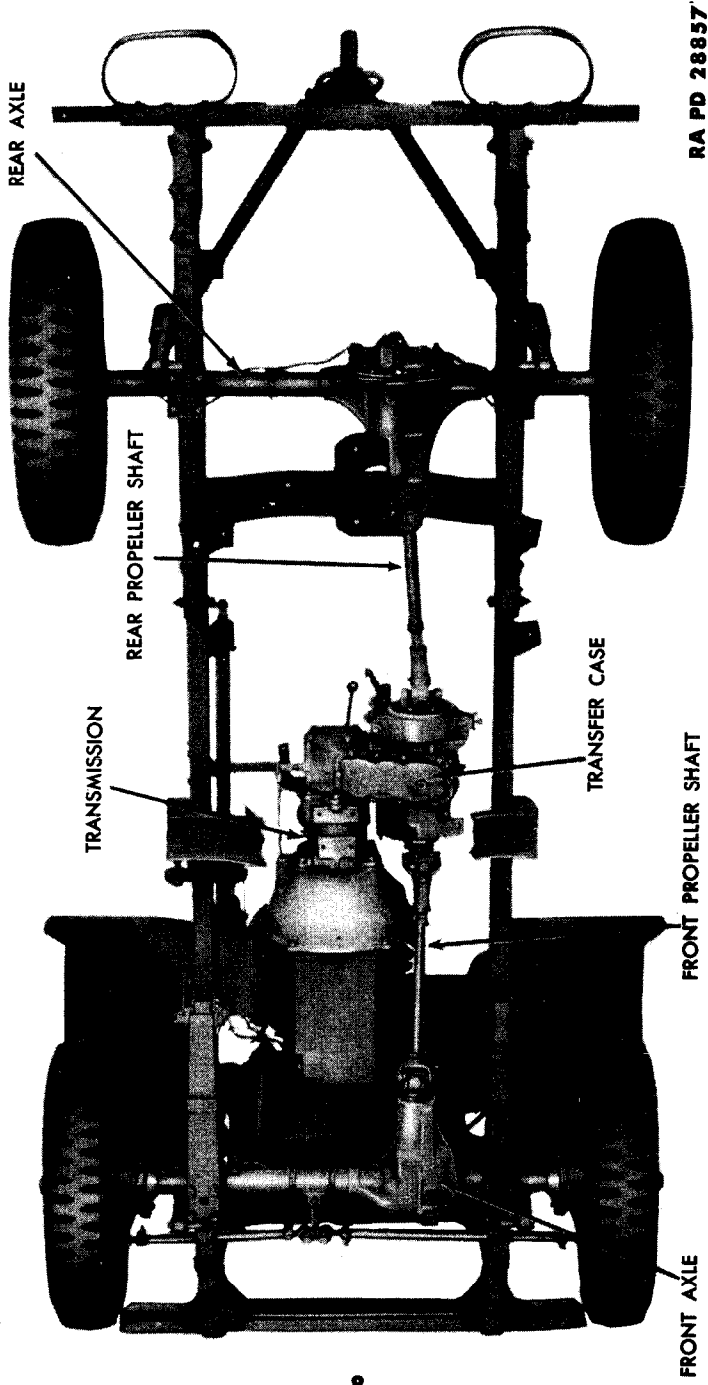

Figure 2 — Power Train
a. The power from the engine is transmitted to the driving wheels through a transmission and a transfer case, each of which provides a means of selecting the gear reduction. The power from the transfer case is transmitted to the front and rear axles through propeller shafts equipped with universal joints. The transmission is located at the rear of the engine and is secured to the clutch housing (fig. 2). The various gears in the transmission (par. 4) are controlled by a shift lever. The transfer case is mounted directly onto the rear of the transmission. The transmission output shaft extends from the rear of the transmission into splines of the main drive gear in the transfer case. The transfer case is provided with two levers, one to select the transfer case ratio, and the other to engage or disengage the front axle (fig. 5). A hand brake drum is mounted on the rear axle output shaft. Each axle is of the spiral bevel hypoid gear full-floating type, equipped with the conventional differential.